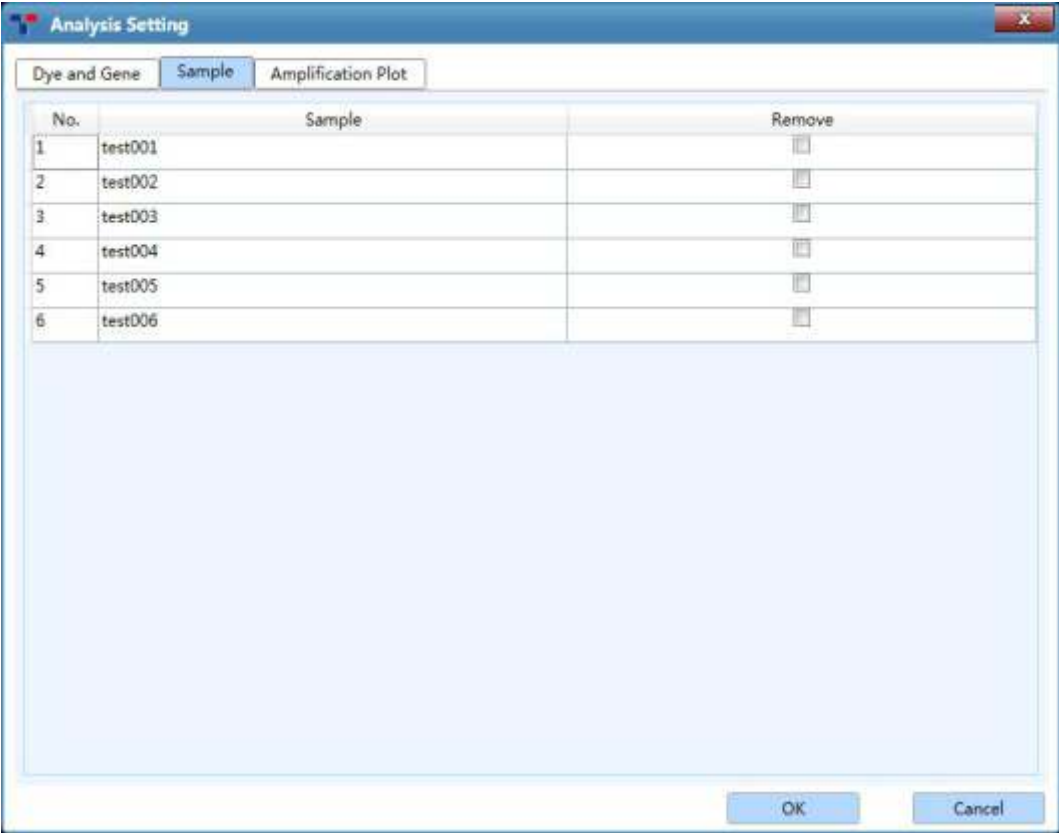

Figure D-10.2 Abs Quant Analysis Setting interface - Sample tab
- ▶ **Sample** tab: display all **Sample** names of the current experiment, as shown in figure D-10.2.